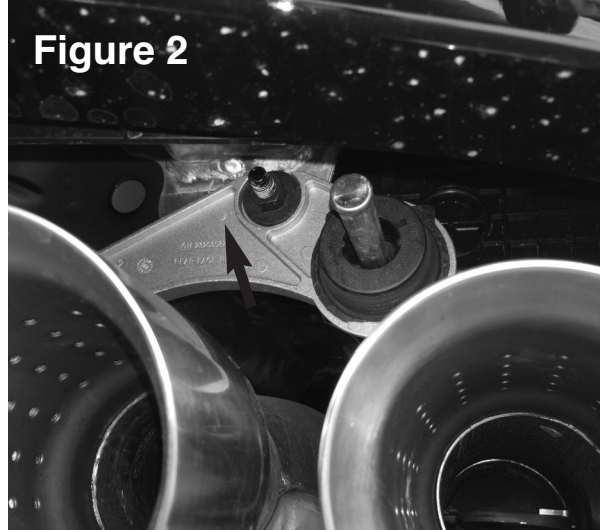

Figure 2
4. After cutting the two pipes and with the factory muffler still supported, slide the two hangers at the front of the muffler from the rubber mounts on the vehicle. Now lower the supports at the front of the muffler and slide the muffler forward to release the rear hangers from the mounts on the vehicle. Lower the muffler and set aside. Deburr the end of the pipes where cut with a file or die grinder. Using a 15mm wrench, unbolt the two stock hangers at the rear of the vehicle from the frame. See Figure 2. When you remove them, place them with the corresponding
1. Place the new Legato muffler units next to the factory unit and swap the rear hanger mounts (Figure 2) from the stock muffler to the Legato muffler assemblies.